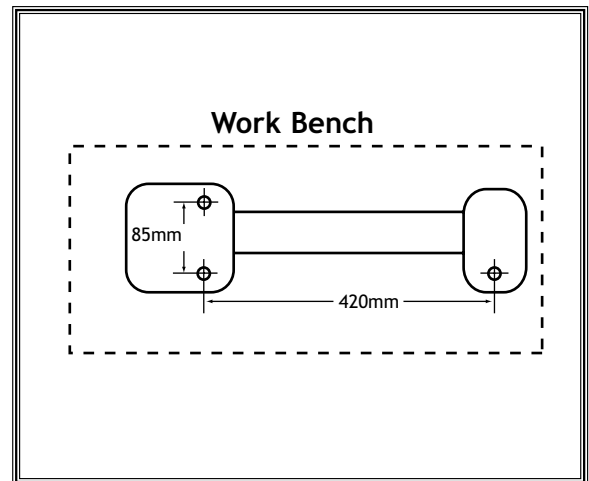

Figure 3. Drill pattern.
Bolt this lathe to a tool table or workbench. Refer to **Figure 3** for hole layout. Never use this lathe unless it is securely mounted to a stable surface.
3. Transfer the bolt pattern from **Figure 3** to the workbench top with the center punch.